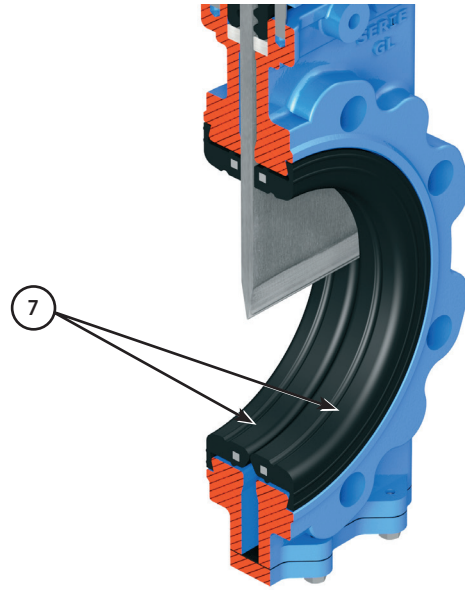

Fig. 6
REPLACING THE SEALING JOINT (Fig. 6)
3. Place the gate (2) in open position.
4. The sleeves (7) are replaced from outside the valve's body, it is a seat with two symmetrical parts, below we show a diagram of the seat (fig.6).
6. Once they have been lubricated with Vaseline, insert the new sleeves (7) of the same dimensions as those old ones.